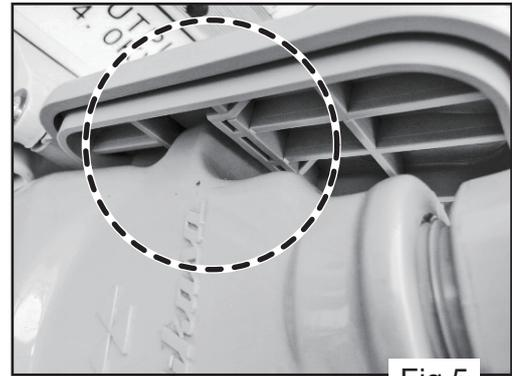

Fig.5
- 7.7 Check to make sure that the claw of the output outlet cover is securely catching the male plug and the plug does not come off even when the cord is pulled lightly. (Fig.5)